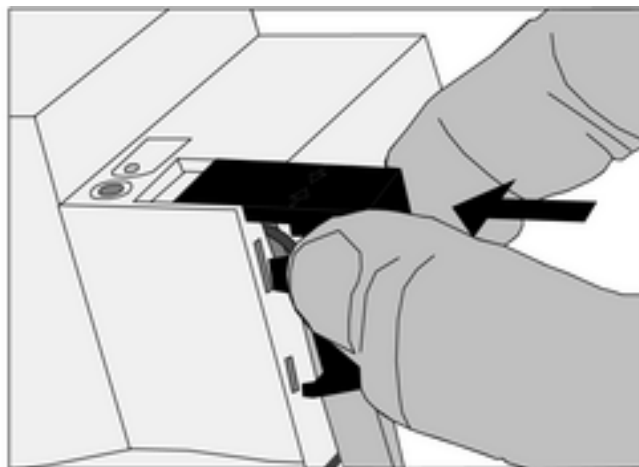

Figure 3: Installing the cover
- Install cover on top of the bus terminal so that it snaps into place (figure 3).